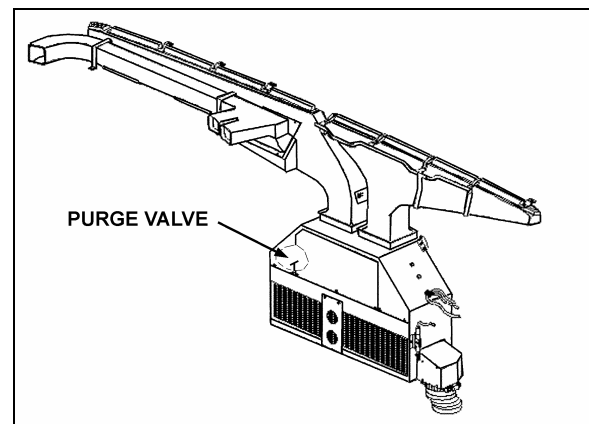
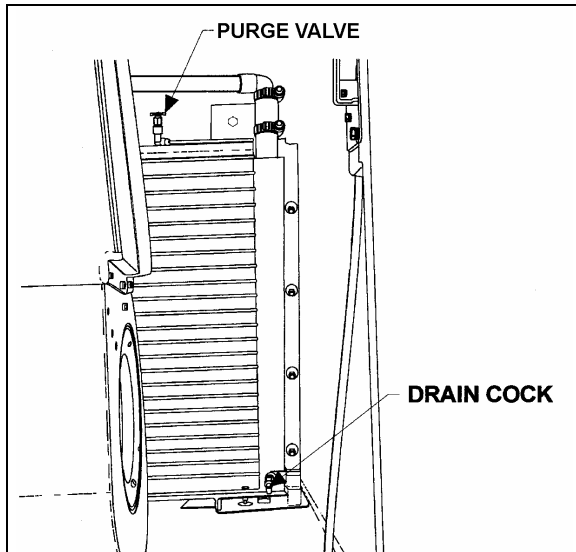

FIGURE 46: DRIVER'S UNIT AIR MIXING BOX 22171PV
FIGURE 47: PASSENGER'S UNIT HEATER CORE (H3 COACHES) 22229
4. From inside of vehicle, remove the grill and the access panels. Open the purge valve located inside the driver's unit (Figure 46) to ensure an efficient draining.
4. Open drain cock in bottom of heater core, then open purge valve located on top of heater core (Figure 47) in order to allow air to enter while draining.
Whenever the heating system has been drained and refilled, or the system has run low on coolant and coolant has been added, it is necessary to bleed air from heating system. Locate the purge valve illustrated in Figure 46 and Figure 47, and open them momentarily until no air escapes from the lines.